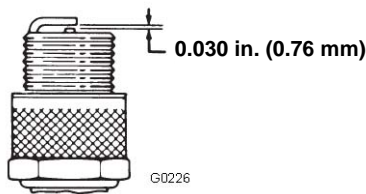

Figure 27
5. Set the gap on the plug to 0.030 in. (0.76 mm) (Fig 27)